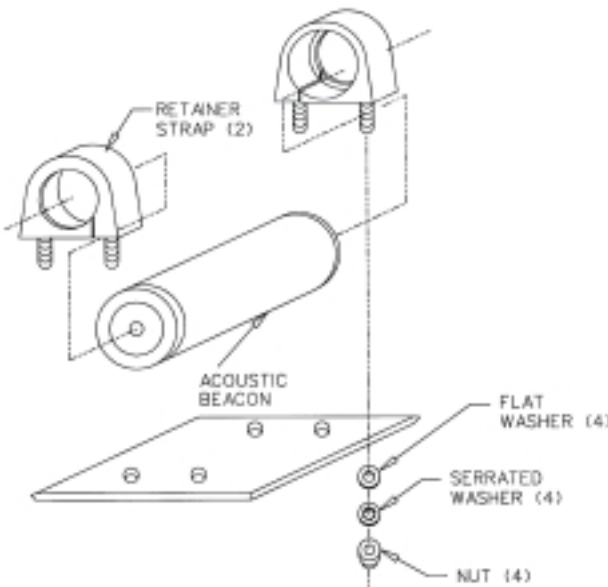

Figure 7. Method of Installing the N30A21A Mounting Kit
D. Slip the retainer straps of the mounting kit over the ends of the beacon. See Figures 7 and 8.